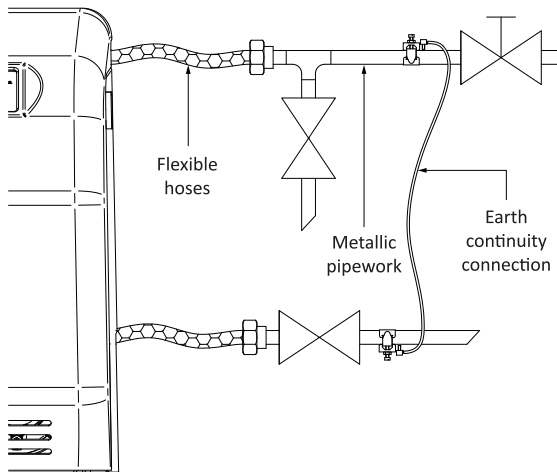

Fig. 14
- 7.15 Adjacent pipes:** Adjacent suction and delivery pipes should be fitted with earthing clamps in accordance with current regulations (Fig. 14).